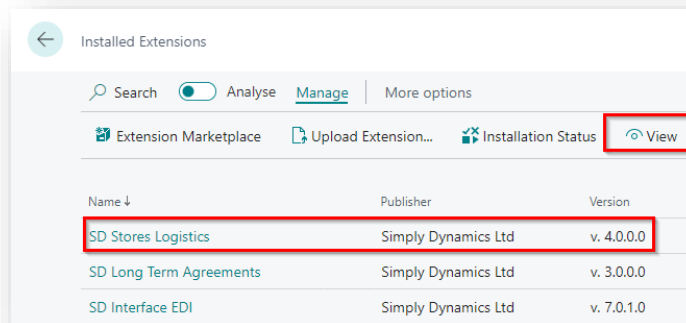

Figure 4-3
3. Select the **SD Stores Logistics** App record and from the menu, select the **Manage** group, and choose **Configure** (Figure 4-3).